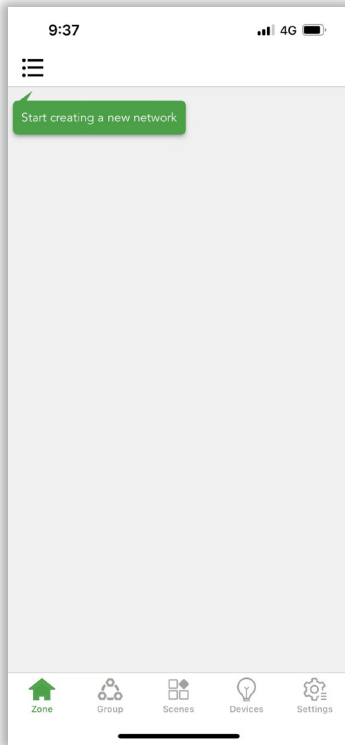

Figure 3.1 Zone page
1. Create a network by clicking ☰ on the left corner of the zone (see figure 3.1) and create a network by clicking ⊕.